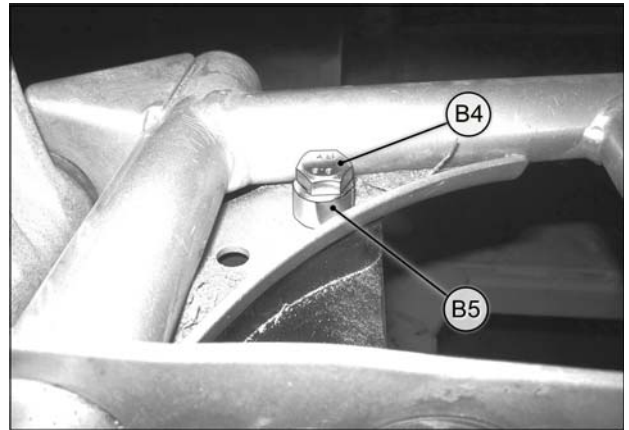

Fig. 7
- Insert the M8x40mm bolt (B4) in the existing hole in the lower suspension arm's reinforcing plate. Make sure to slip the spacer bushing (B5) on the bolt before inserting it in the hole. See Fig. 7